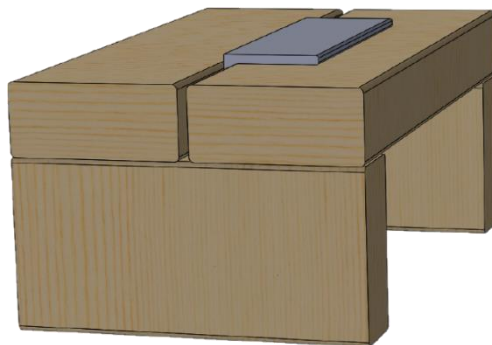

Figure 8. Block for drilling holes
- c. Use the block to drill holes (see illustration in Figure 8 below).